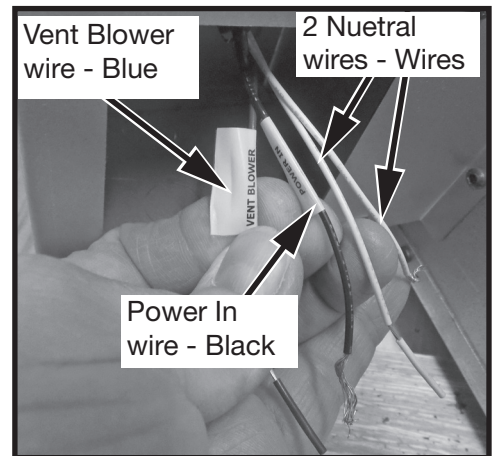
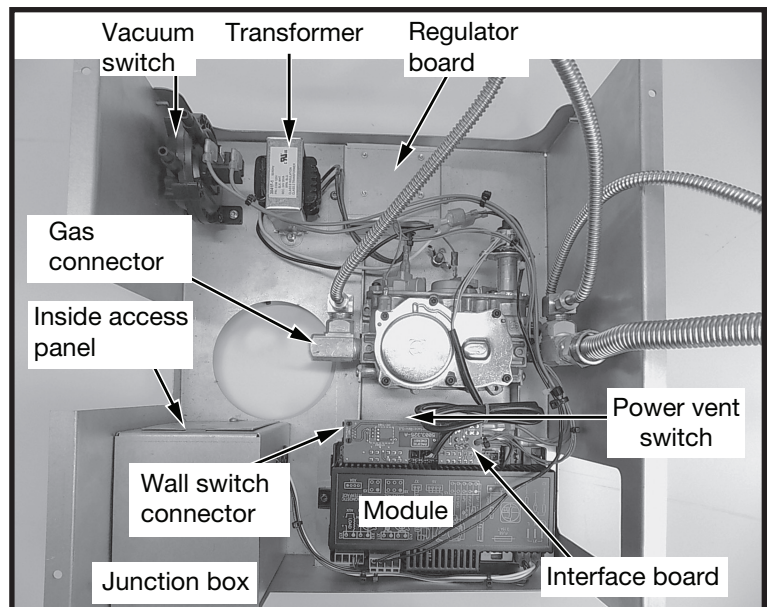
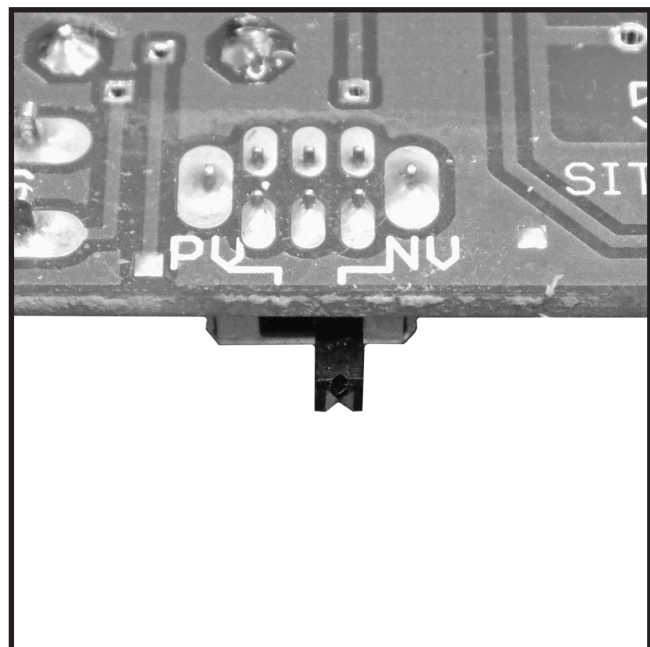

Figure 23: Junction box wiring.
Figure 24: Valve assembly components.
Figure 28: Vent mode selection switch.
4. Connect 110 V. AC electrical supply to the wires installed inside the junction box (Figure 23). The fireplace is rated at 110 volts, 60Hz, 0.25A. The optional power vent kit is rated at 115 volts, 60Hz, 1.8A.
The electrical wires can be accessed from both inside and outside the junction box by removing one of the two small access panels (Figure 23 & Figure 24) .
7. Attach one end of the wall switch control cable to the wall control (Figure 26), and the other end to the interface board (Figure 24).
The NV / PV (Natural Vent / Power Vent) switch (Figure 28) on the interface board (Figure 24) is set according to which type of evacuating vent system is present. If the fireplace is vented without the assistance of a power vent, the switch must be set to “NV”. If using a power vent, “PV” must be selected. Follow the instructions provided with the power vent kit for proper installation.
1. Connect the gas supply to the valve (Figure 24).